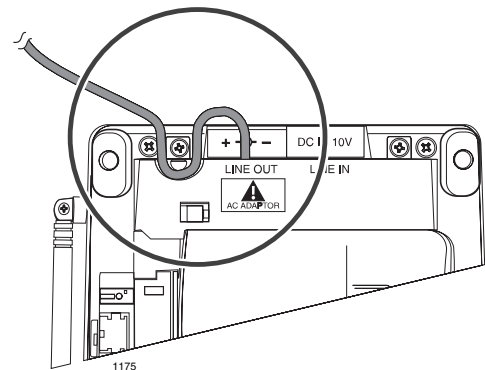

Figure 7-30 Line Out Cord
4. Wrap the power cord around the notch on the bottom of the base unit (see Figure 7-30).